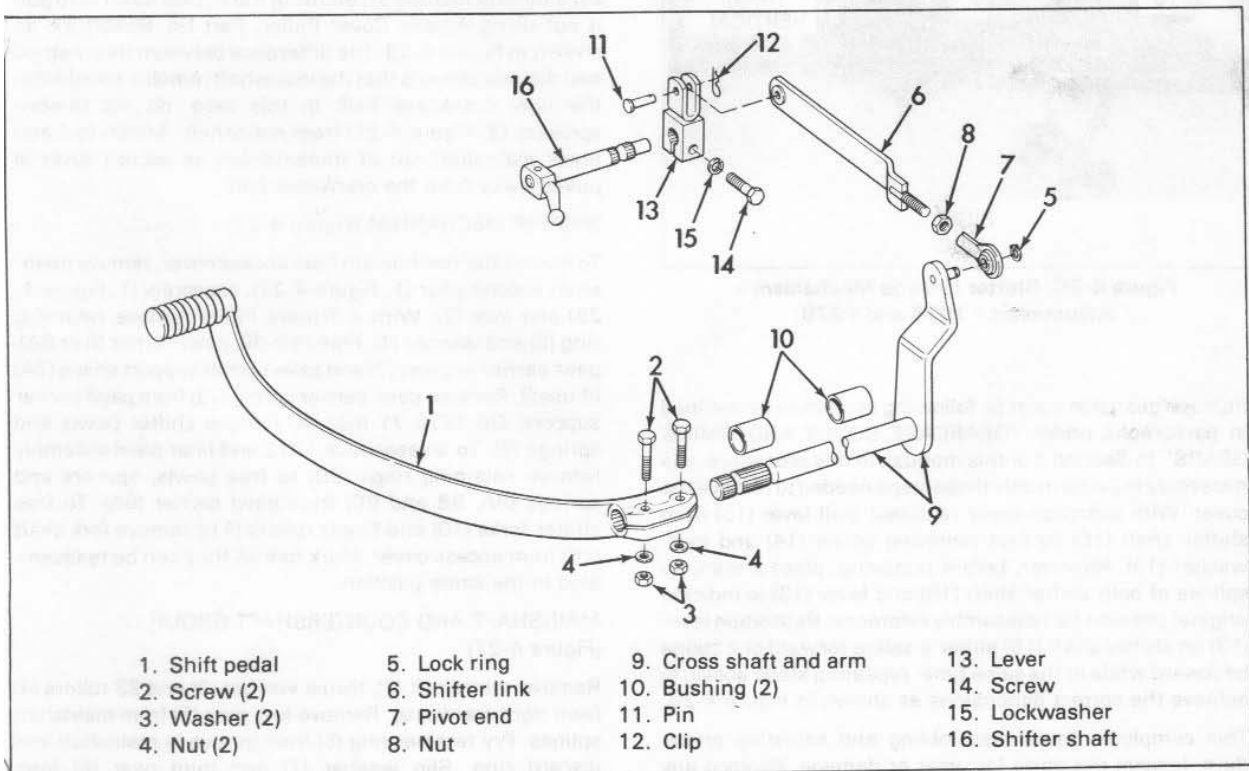

Figure 4-19. Shifter Linkage Mechanism - Exploded View - 1975 and 1976
From the left side of motorcycle, remove shifter foot pedal (1), Figure 4-19 as follows. Before removing, place a mark on splines of cross shaft (9) and pedal (1) to indicate original position for reassembly reference. Then remove screws (2). Insert screwdriver into slot as a wedge and pull pedal from cross shaft. On the right side of motorcycle, remove rear end of shifter link (6) from pin of arm (9) by removing lock ring (5). Loosen locknut (8) and unscrew pivot end (7), noting number of turns required for reassembly reference. Temporarily replace pivot end back on pin.